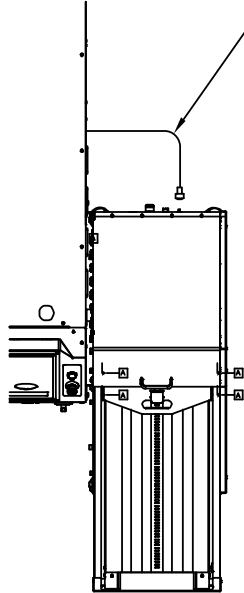

Figure 2-33. Comm. Cable Connections
5. Connect the communication cable as shown in Figure 2-33.